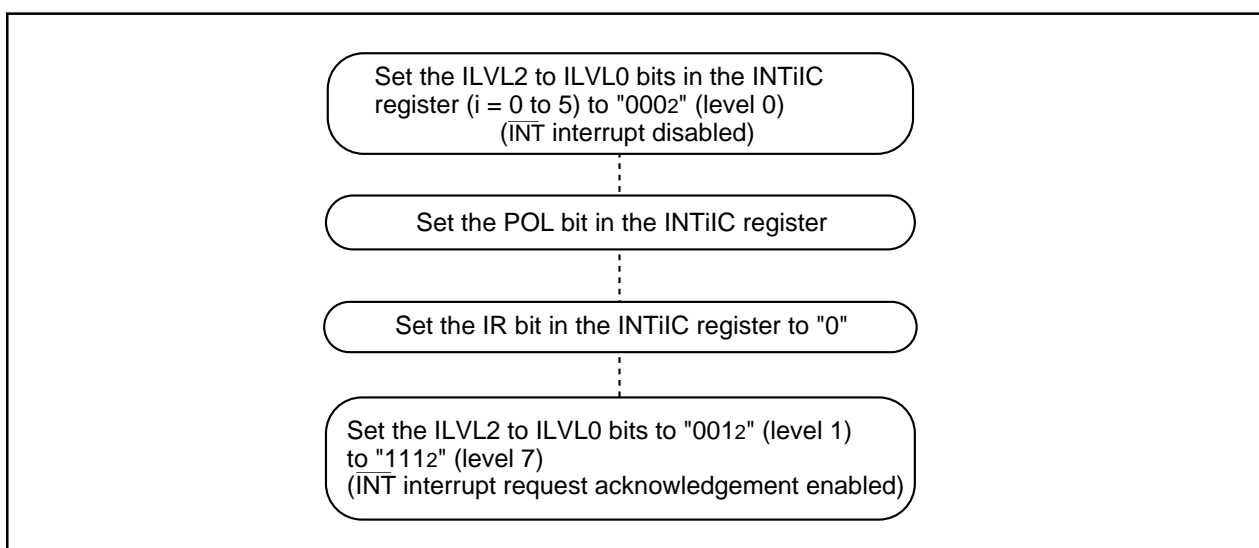

Figure 27.3 Switching Procedure for  $\overline{\text{INT}}$  Interrupt
- The IR bit setting may change to "1" (interrupt requested) when switching the polarity of the  $\overline{\text{INT}}0$  to  $\overline{\text{INT}}5$  pins. Set the IR bit to "0" (no interrupt requested) after selecting the polarity. Figure 27.3 shows an example of the switching procedure for the  $\overline{\text{INT}}$  interrupt.